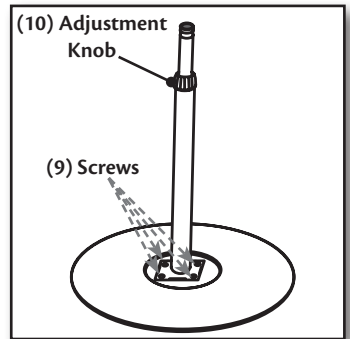

Figure 8.
2. Secure the Telescope Rod (7) by inserting the 4 base screws(9) into the 4 nuts placed on the bottom of the fan base and tighten securely. **Figure 8.**
- Fan oscillates in a figure 8 motion.